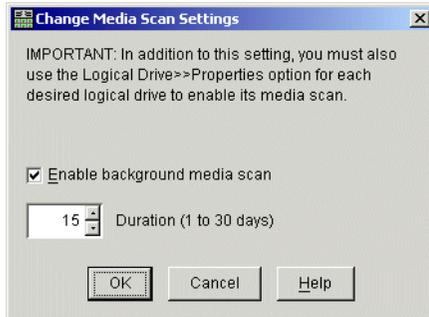

Figure 5-29 Change Media Scan Settings Dialog Box
2. The Change Media Scan Settings window is displayed, as shown in Figure 5-29: